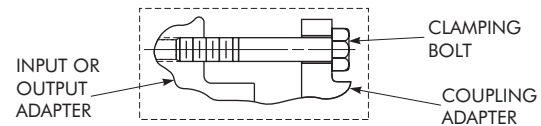

Figure 3b
- C. Re-insert clamping bolts on both ends between coupling adapter and input/output adapter as shown in Fig. 3b.